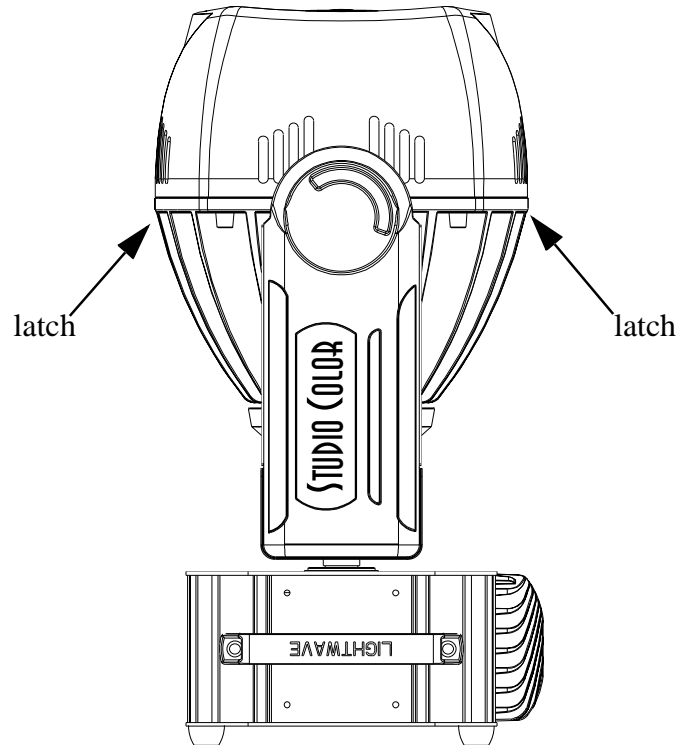

Figure A.1. Removing the Bezel
2. Unlatch the latches on the top and bottom of the bezel. Refer to Figure A.1.